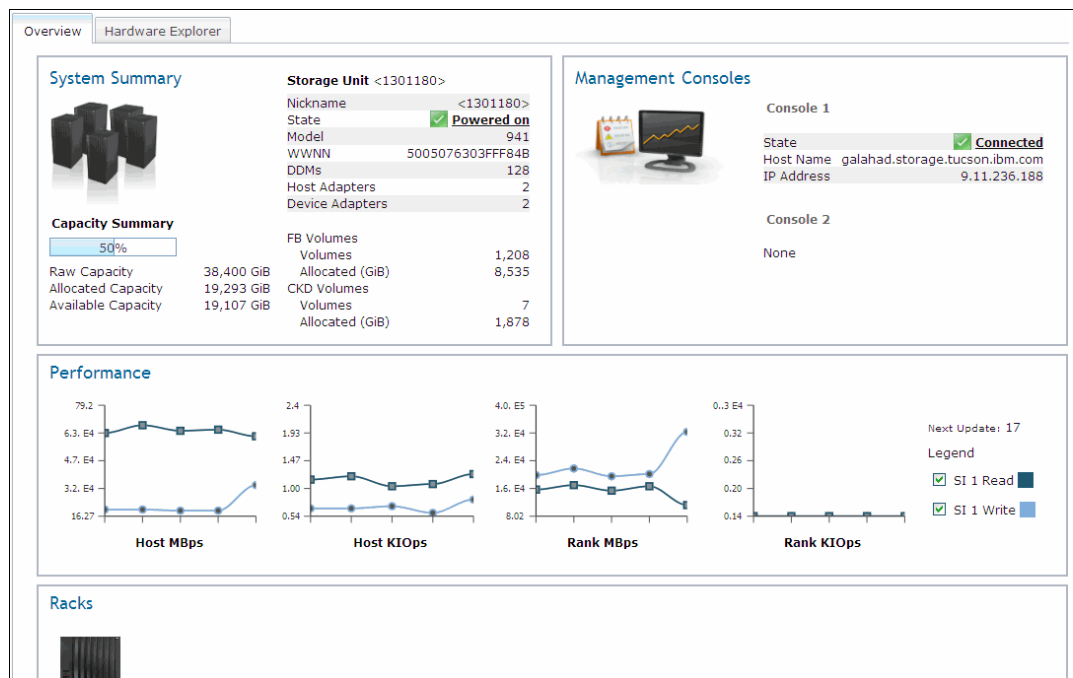

Figure 13-67 System Summary overview
3. The new Storage Complex window provides general DS8000 system information. It is divided into four sections (Figure 13-67):